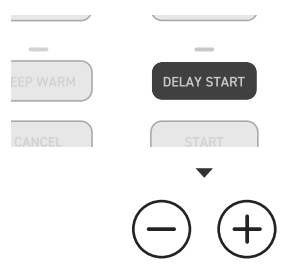

Figure 9.1
- 3. Press the - or + buttons to adjust the delay start timer from 10 minutes (00:10) to 24 hours (24:00). [Figure 9.1]